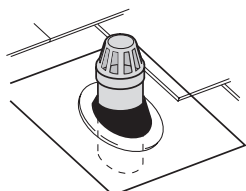

Fig. 19b Steps 2/3
**Step 2** – Slide **149 Weathering Slate** over stack (Fig. 19b)